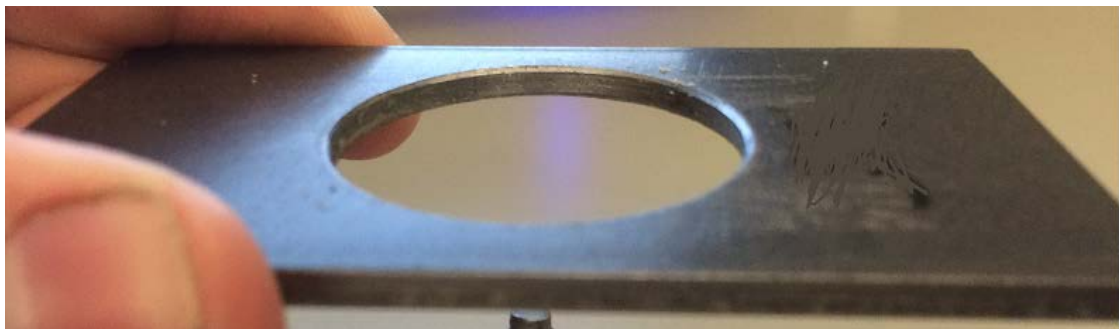

Figure 1: Metal Plate with Hole in Center
4.3.1.1.1.1 Cut a 4 mm thick, 50 mm wide by 90 mm long piece of steel. Drill or mill out a hole at the center of the steel plate that is 5.0 mm larger in diameter than the stud standoff or doghouse. Remove any burrs from the metal to avoid sharp edges. See Figure 1.